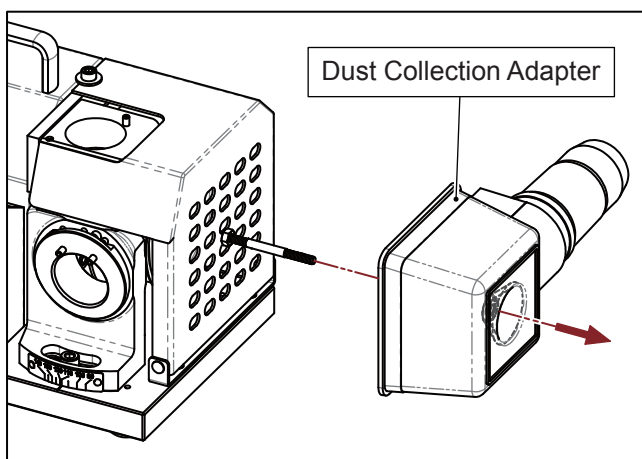

Fig. 2-2
2. Align the hole in the center of the dust collection adapter with threaded rod. Push the dust collection adapter to the end. (Fig. 2-2)